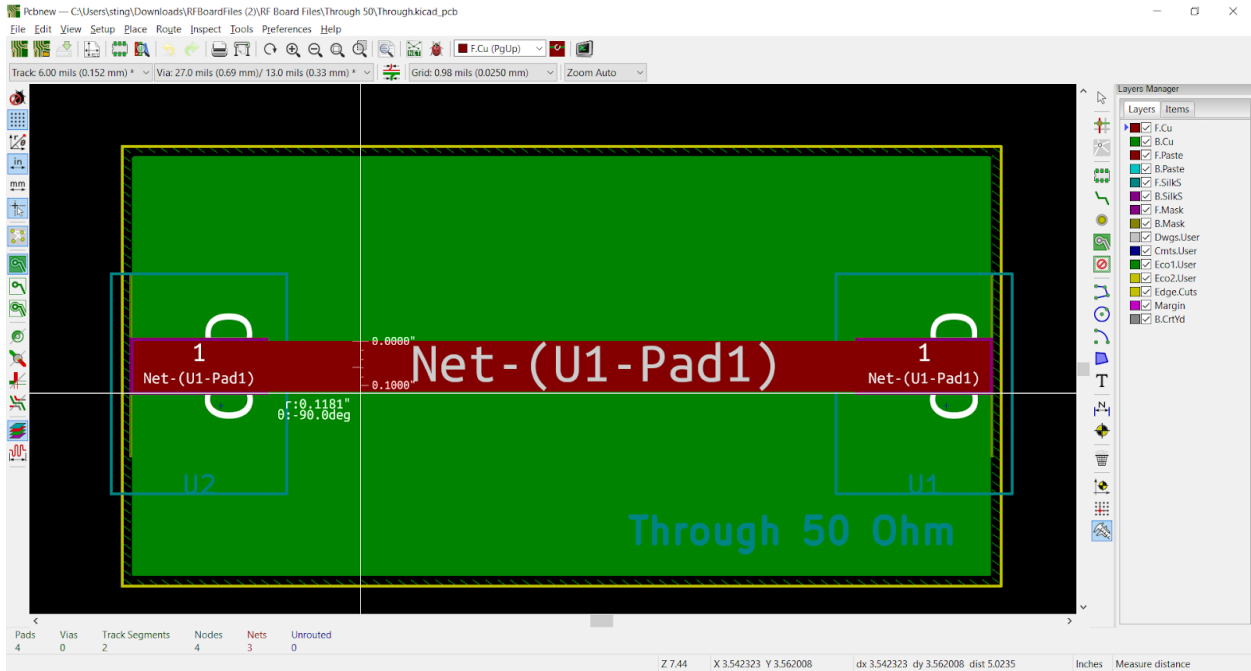
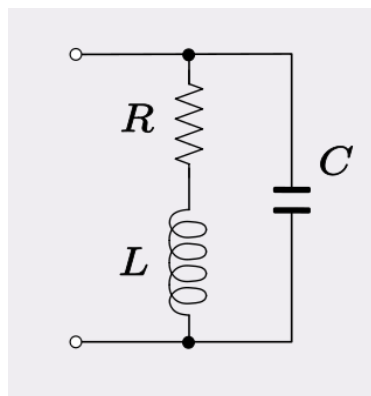

Figure 1: 50 ohm through
Figure 4
1. Figures 1 and 2 depict design files for boards in the lab that are referred to as the "50 ohm through" board and the "40 ohm through" board. The KiCAD files for test boards can be found at the embedded link (to the RF webpage). These boards were built in the OshPark two-layer PCB fabrication process. I've included screenshots of the layouts in Figures 4 and 5.
4. Use a series-to-parallel transformation to find the quality factor of the network in Figure 4 at frequency  $\omega_0$ , the natural frequency of the resonant network.